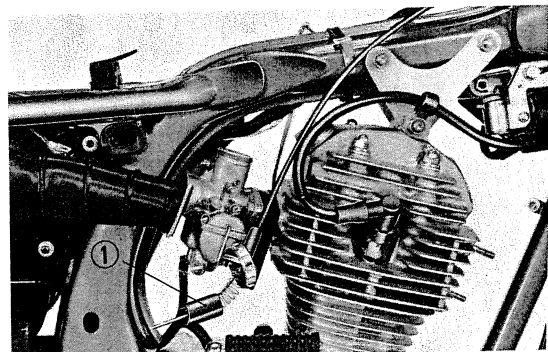

Fig. 25 ① Throttle valve
- 6) Remove the throttle valve from the carburetor. (Fig. 25)